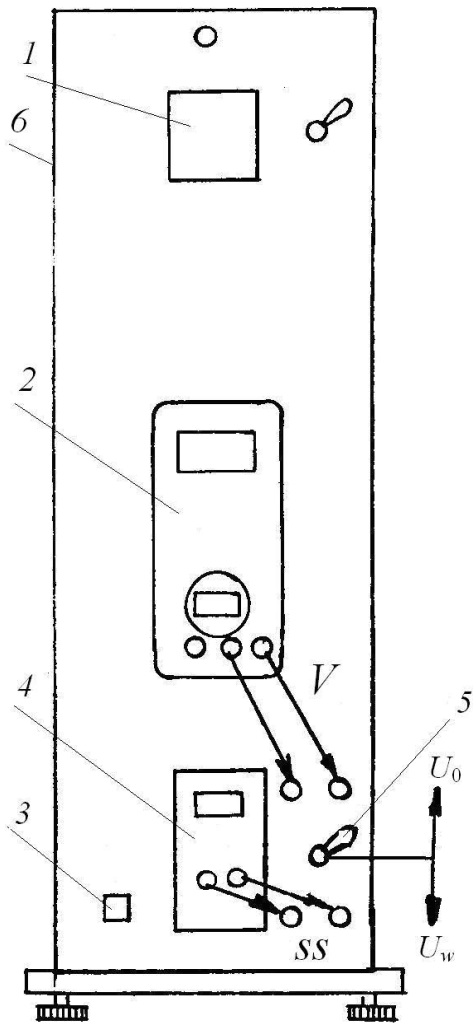

Fig.1. Setup scheme
Figure 1 presents the description of the experimental setup scheme. The front panel presents the two-channel temperature meter (1) mode 2TM, connected to chromel - copel thermocouple, universal voltmeter (1) mode MY-67 with automatic change measurement limits, tumbler of electric supply of setup (3), connectors (V) for plug-in voltmeter (1), tumbler (5) for switching voltmeter to